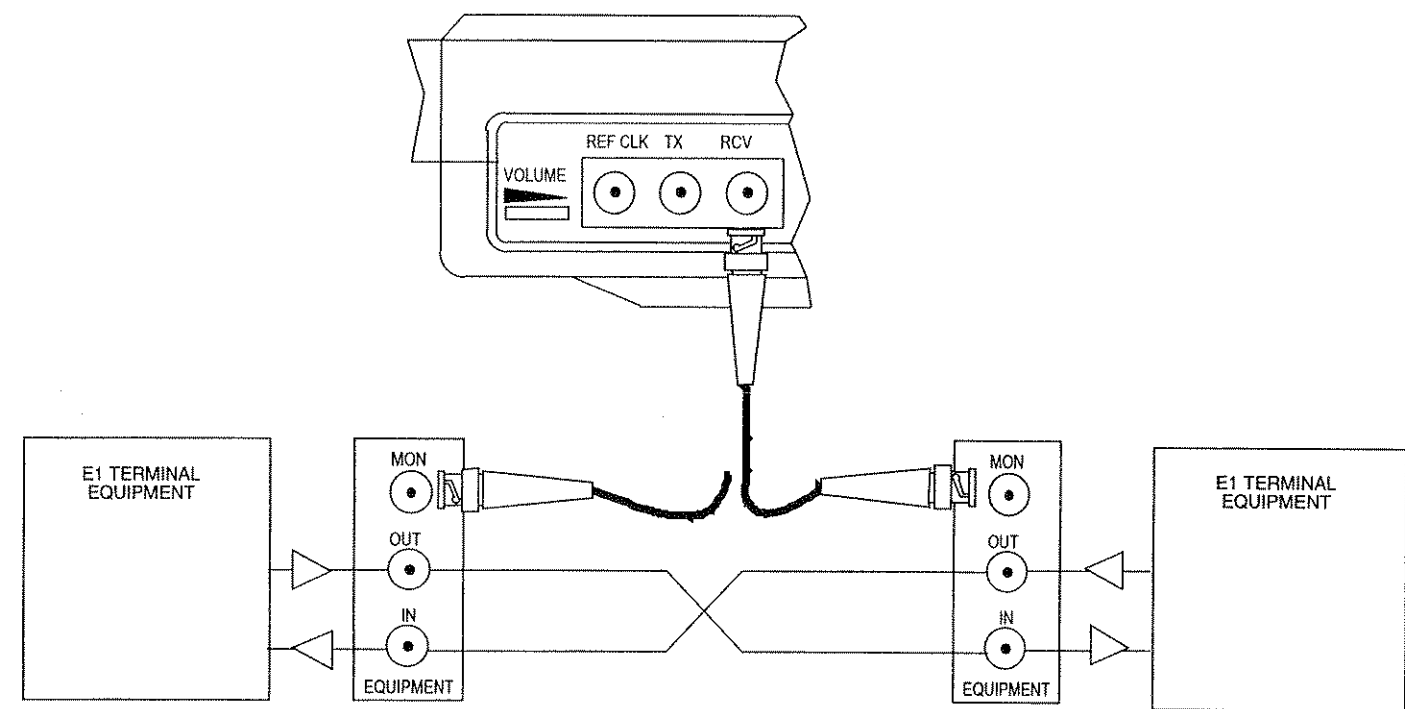

Figure 7.2A Monitoring an In-Service Circuit - Monitor Mode
Here is a procedure for monitoring a circuit that is in-service. The setup is illustrated in Figures 7.2A and 7.2B.
- 3) Connect the test set to the circuit as shown in Figure 7.2A or 7.2B. Press the HISTORY key to acknowledge any blinking history lights and turn them off.